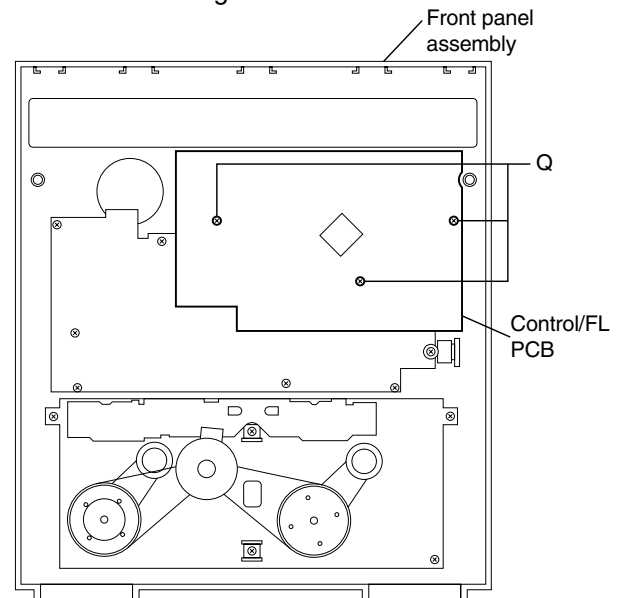

Fig.23
■ Removing the control/FL PCB (See Fig.23)
■ **Removing the switch PCB and ACTIVE BASS EX. switch PCB (See Fig.23 to 26)**